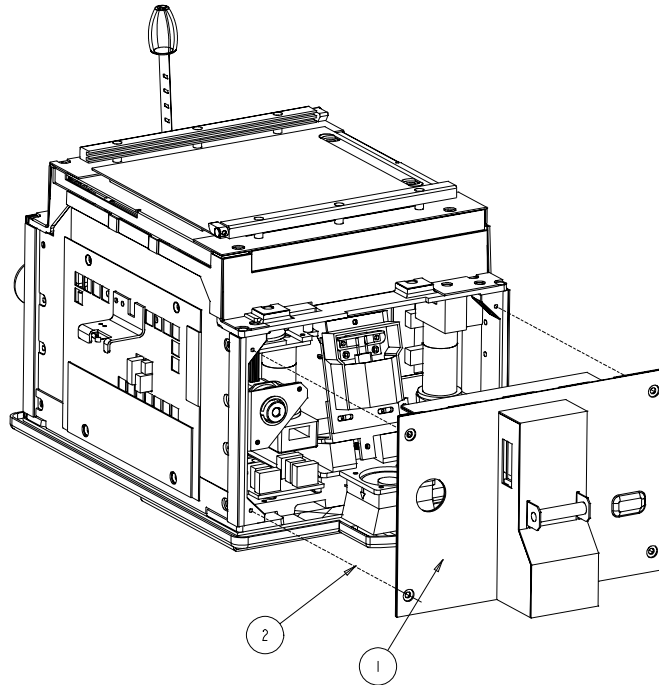

Figure 17: Remove Lamp Side Plate
2. Remove Lamp Side Plate (item 1, Figure 17) by loosening the 4 screws (item 2, Figure 17)